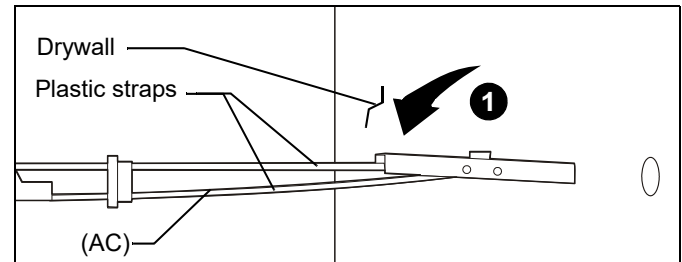

Figure 20
1. Hold metal channel on anchor (AC) flat alongside plastic straps and slide channel through hole. (See Figure 20)